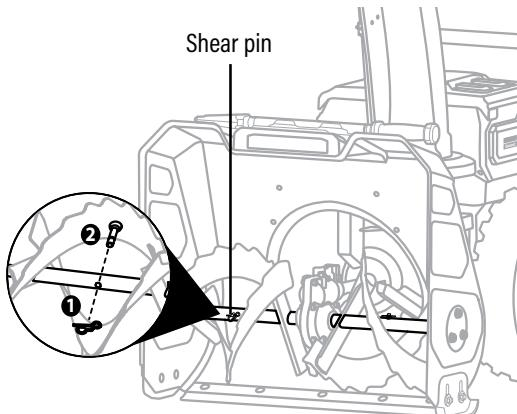

Fig.17
1. Remove the locking pin from the shear pin on each side and then pull out the broken shear pin. (Fig. 17)
2. Carefully align the auger to the auger shaft and insert the new shear pin into the slot, then insert the locking pin to secure the auger. (Fig. 17)